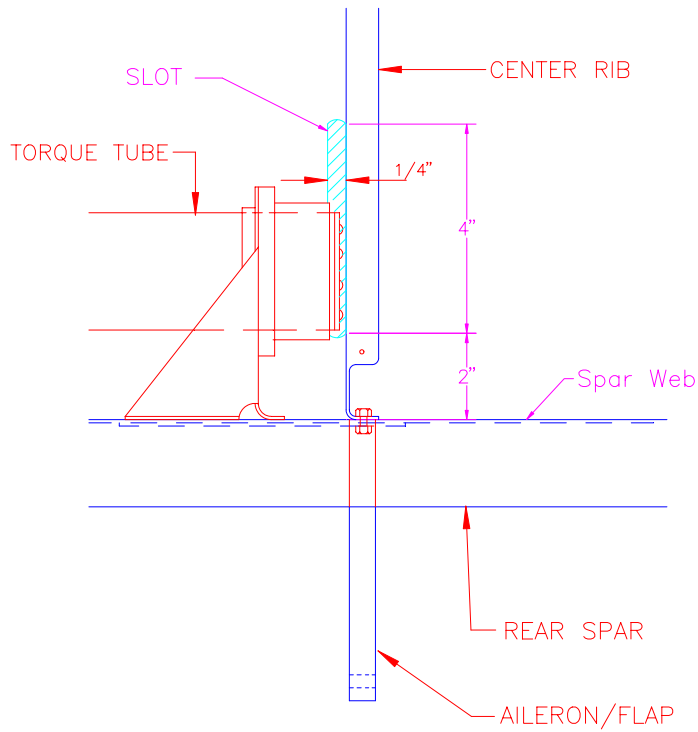

Figure 8.16.7
- 14) Mark the bottom skin where the torque tube horn will exit. See figure 8.16.7 for hole location.